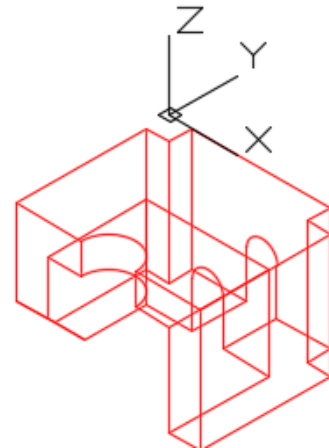

Figure Step 7
Step 7 Rotate the model 90 degrees around the Y axis. (Figure Step 7)